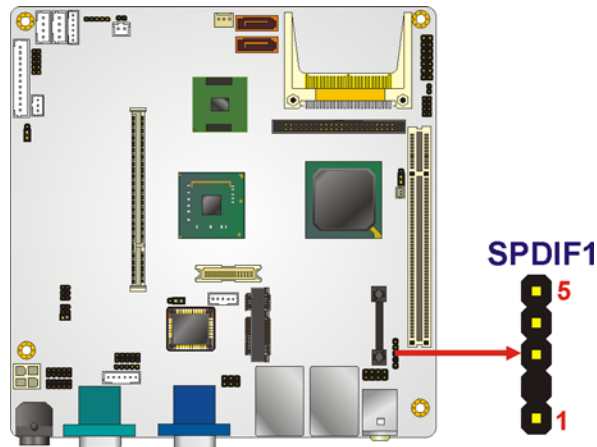

Figure 4-21: SPDIF Connector Location
- CN Location:** See **Figure 4-21**